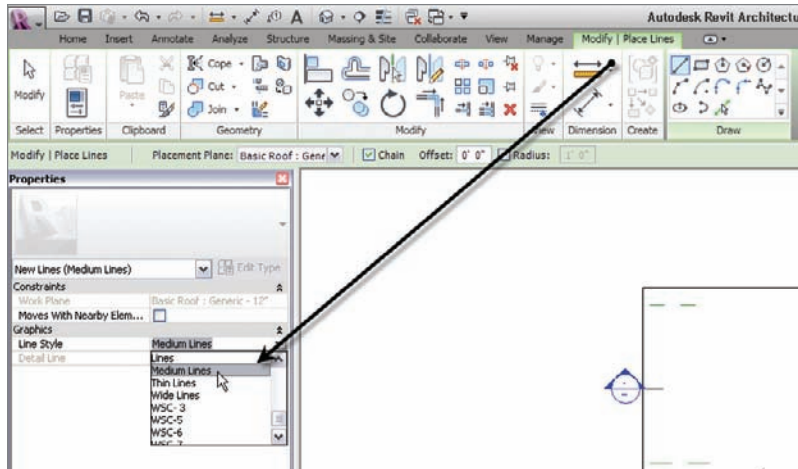

FIGURE 12.85 Click the Medium Lines button under Line Style in the Properties dialog.
- In the Properties dialog under Line Style, click the Medium Lines line type, as shown in Figure 12.85.